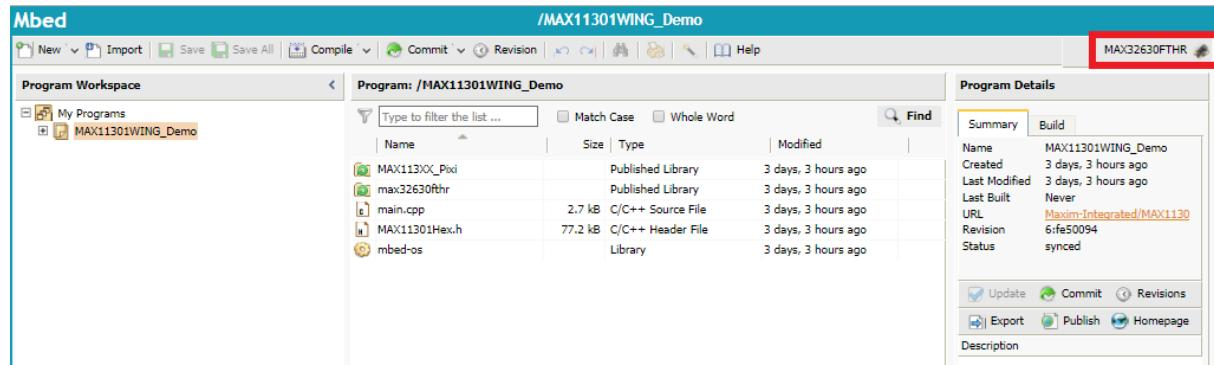

Figure 7. Highlights the target microcontroller selection area of the Mbed compiler window.
5. In the compiler window, select the MAX11301WING_Demo program in your program work space. In the upper right corner, the target microcontroller is displayed. Confirm the MAX32630FTHR is the target microcontroller. **Figure 7** highlights the location of the target microcontroller on the compiler webpage with a red box. If the MAX32630FTHR is not selected, click this area to select a target microcontroller. Once clicked, the selection window appears; select MAX32630FTHR.